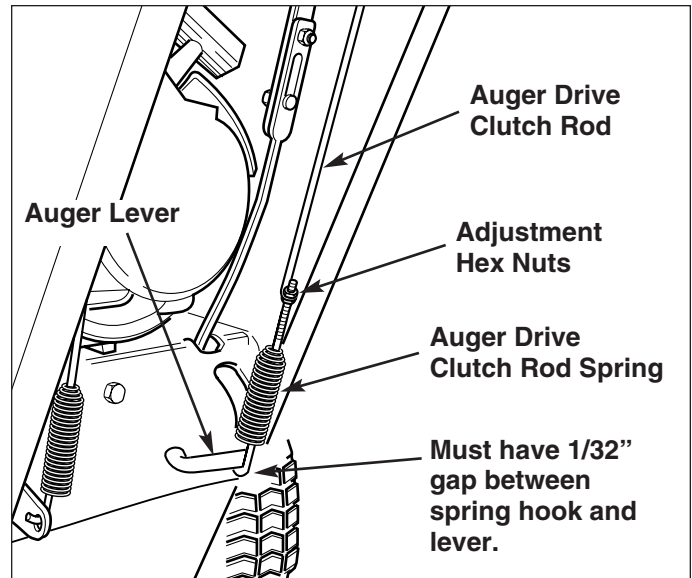

Figure 20. Auger Drive Clutch Rod adjustment
All auger drive adjustment is accomplished through the auger drive clutch rod. The rod must be adjusted so that there is 1/32" clearance between the spring hook and the auger lever (see Figure 20). Proper adjustment allows the auger brake to engage when the control is released. To adjust the rod:
1. See Figure 20. Loosen adjustment hex nuts.